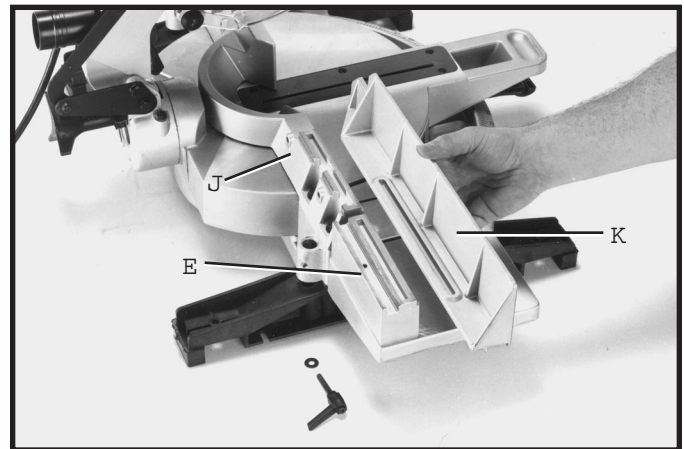

Fig. 7F
6. Position the fence slide (K) Fig. 7F, in position on top of saw fence (J) and fence slide support (E). Slide fence slide (K) back and forth several times to check alignment of fence slide support (E) and make final adjustment to fence slide support if necessary.